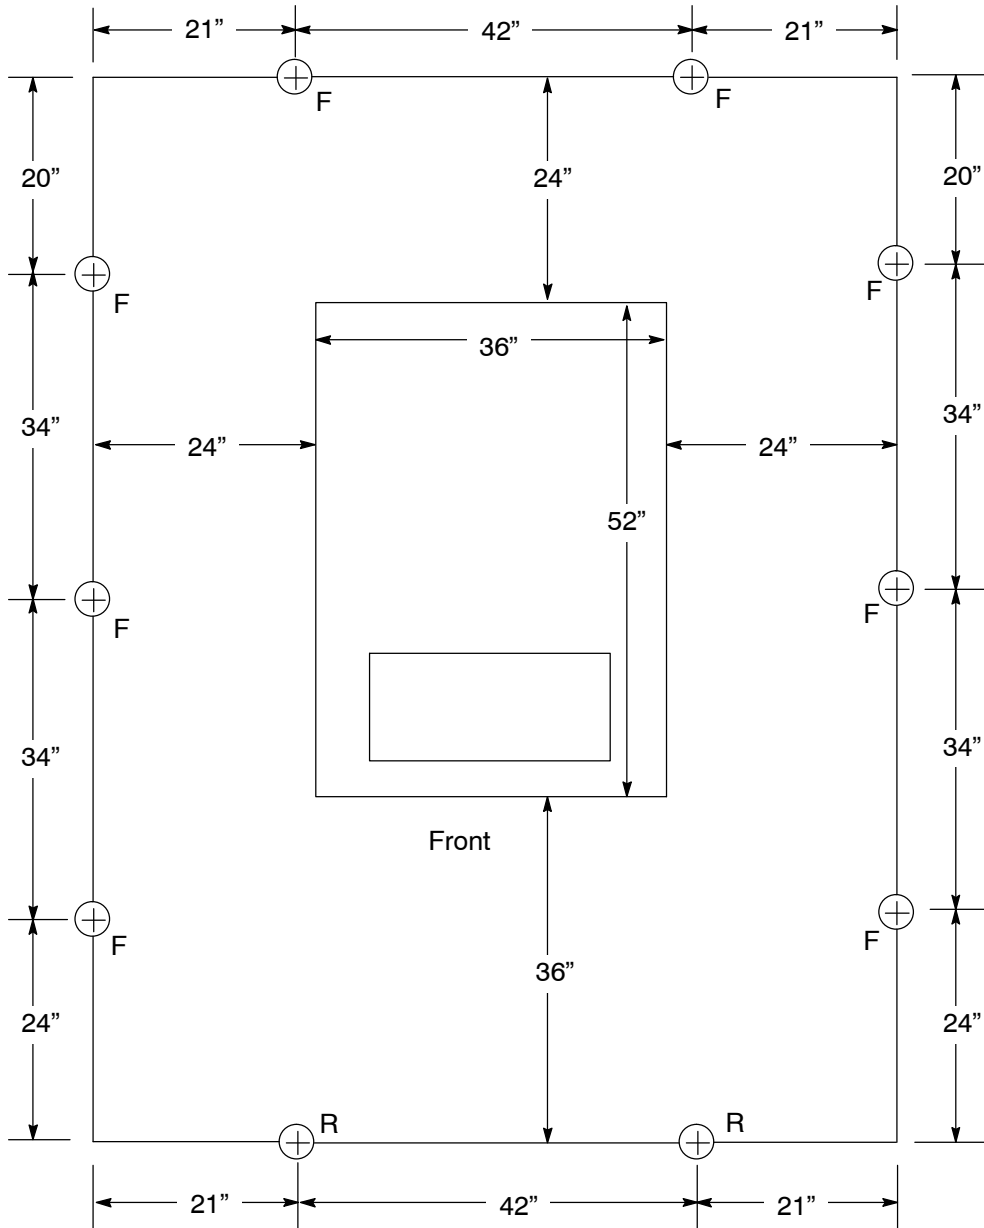

Figure 11
21. Preferred barrier post arrangements for specific equipment are provided in Figure 11 on Page 12 to Figure 23 on Page 24. These may be modified as needed, to meet specific layouts, but must conform to the requirements in Figure 10 on Page 11.